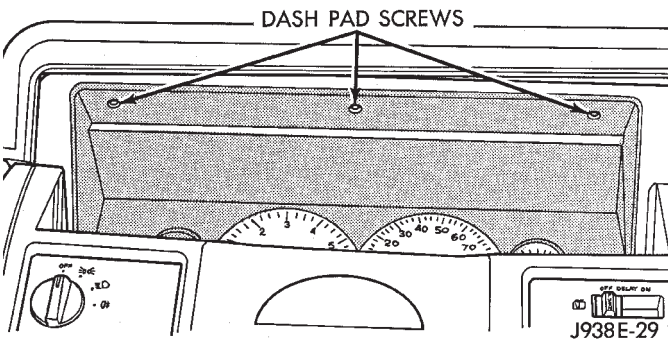
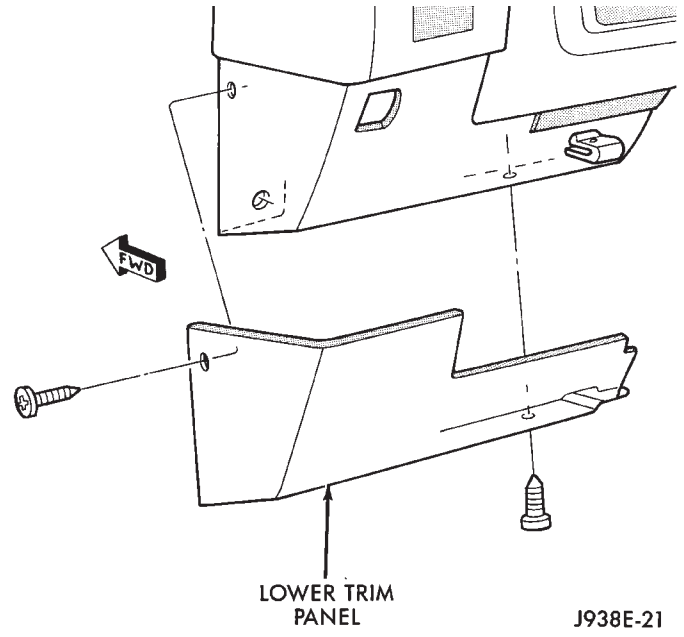

Fig. 4 Remove Screws Holding Dash Pad
Fig. 5 Lower Trim Panel
- (9) Remove 3 screws above Instrument Panel cluster holding dash pad (Fig. 4).
- (10) Open glove box and remove 2 screws holding dash pad.
- (11) Remove dash pad pulling up to unsnap end clips.
- (12) With driver's door open remove 1 screw from the side of the lower trim panel (Fig. 5).